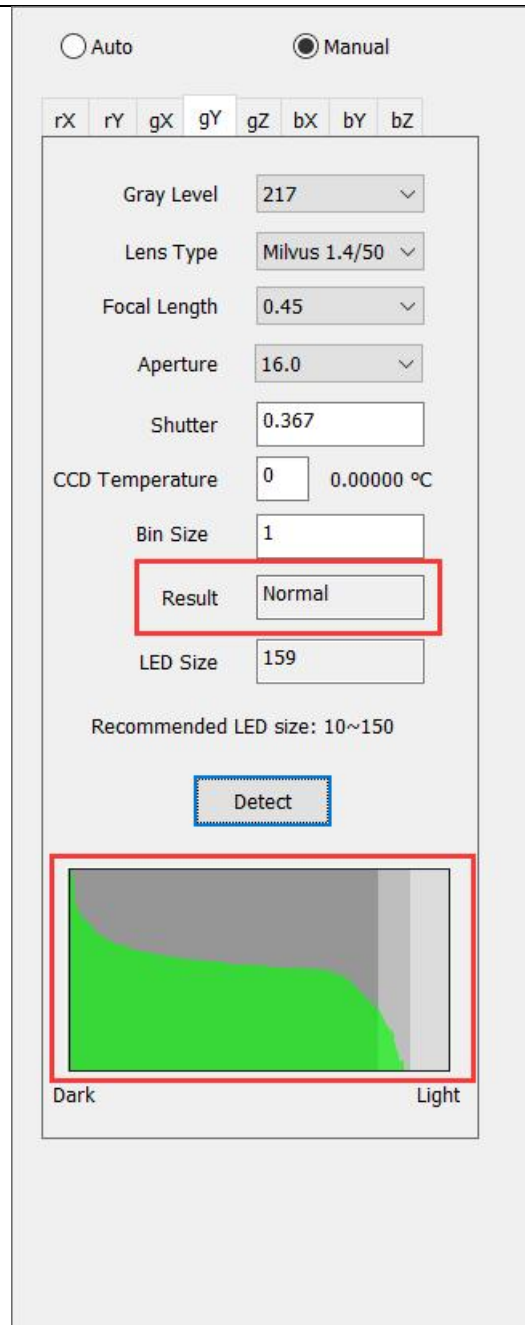

Figure 3-39
b. color calibration : There are eight components in manual metering, namely, 'XR', 'YR', 'XG', 'YG', 'ZG', 'XB', 'Yb' and 'ZB'. After metering of each component is completed, you can switch to metering of the next component until metering of all components is completed. Select "Shutter", manually enter a numerical value to modify the shutter size, and click "Test" to see if the "test result" is normal. As shown in Figure 3-39, the image can be collected after all components are measured manually.